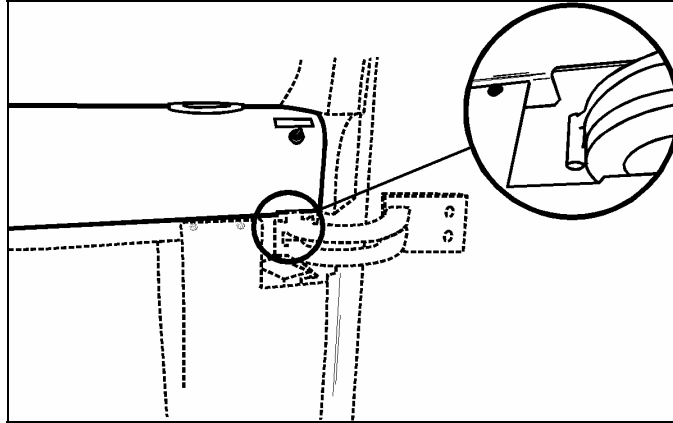
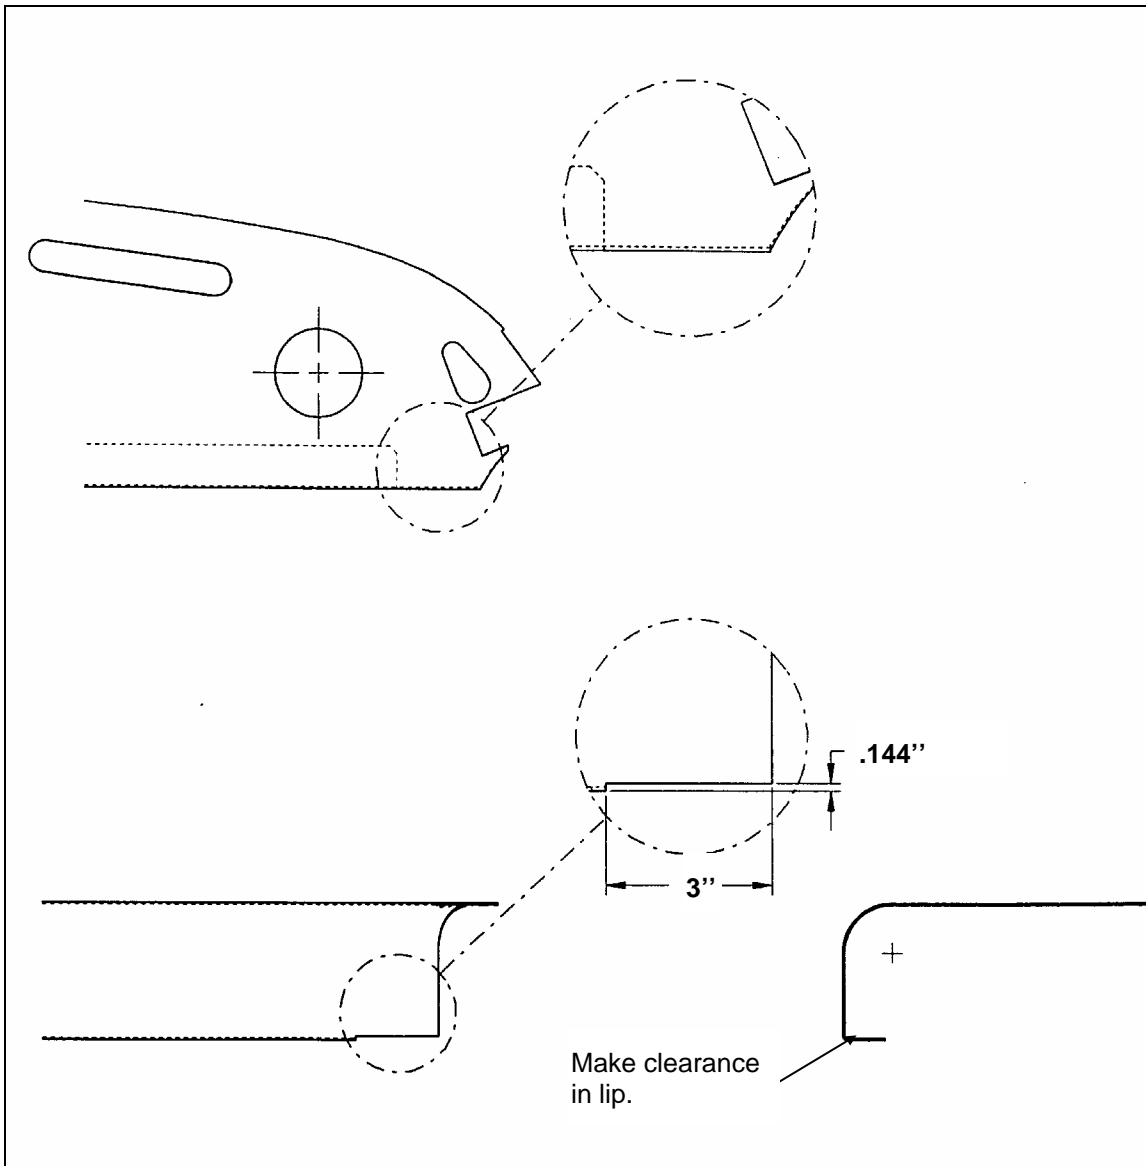

FIGURE 1
FIGURE 2
- Disconnect wiring harness connectors (3) from ECM (Electronic Control Module). The ECM is mounted on the starter side of the engine.
- For vehicles equipped with an automatic transmission, disconnect wiring harness connectors (2) from the ECU (Electronic Control Unit). The ECU is located in rear electrical compartment.
- Cut dashboard panel (Fig. 1) as shown in Figure 2.